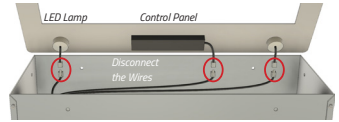

Figure 2
- Flip the stainless steel Panel open on the longest side, locate and disconnect the Wires for the LED Lamps and the Control Panel. **(Figure 2)**